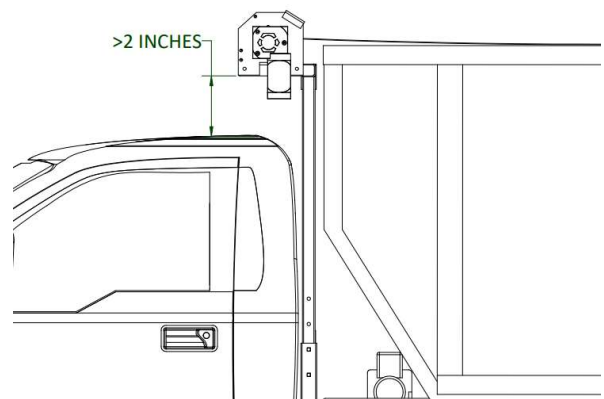

*Figure 1.6*
Remove the LT frame and drill holes in frame rails. Bolt the base tube to the frame rails using the supplied grade 8, 5/8" x 2" Bolts (1) and Nuts (2), see *Figure 1.6.*